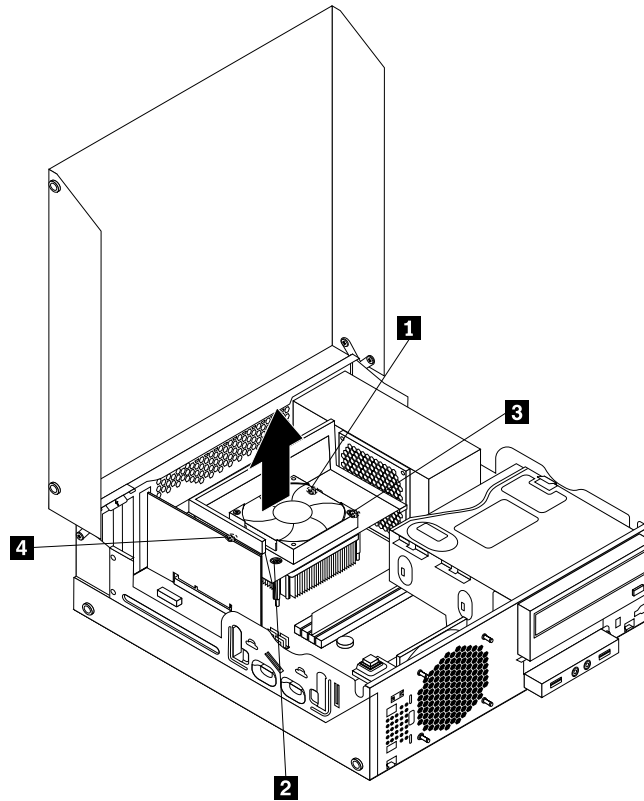

Figure 33. Screws that secure the heat sink and fan assembly
8. Follow this sequence to install the four screws to secure the new heat sink and fan assembly, as shown in Figure 33 “Screws that secure the heat sink and fan assembly” on page 53: